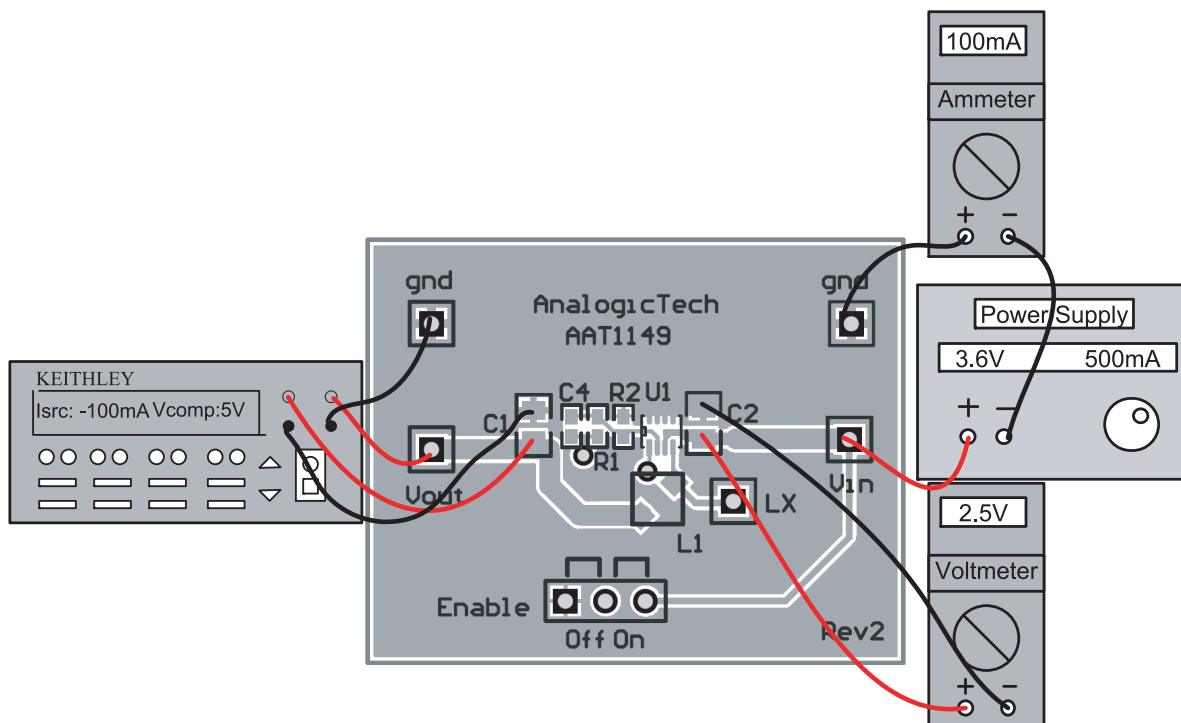

Figure 7: AAT1149 Evaluation Board Connection Diagram for Efficiency vs. Load Current.
1. Configure the specified test equipment as shown in Figure 7. Connect voltmeters as closely as possible to the input and output capacitors to avoid voltage drop along the trace resistance.